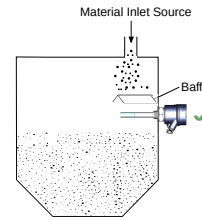

Figure 40: Coat-Endure with Baffle
- For side-mounting, provide a baffle to prevent the material from falling on the probe. Please refer to Figure 40.